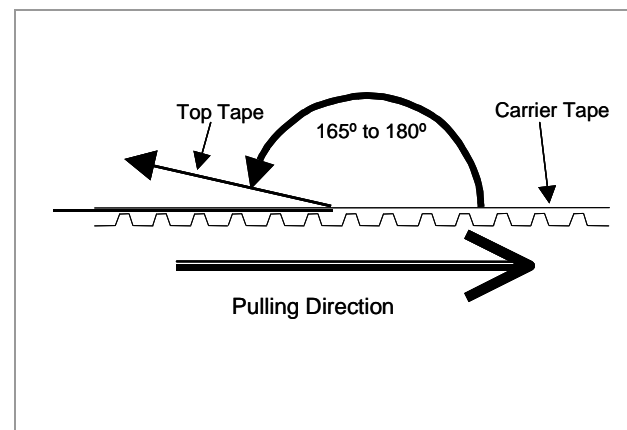

Fig.9 Peeling Strength
- The power peeling top tape from carrier one shall be 0.1N {10gf} to 0.7N {70gf}. “Fig.9”